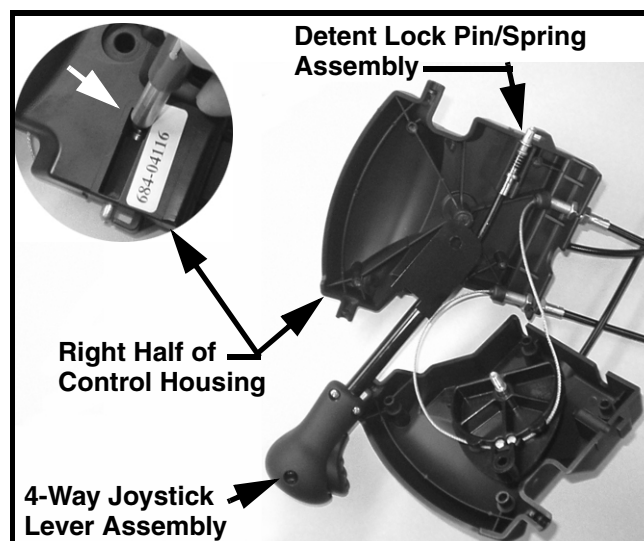

FIGURE 8
NOTE: The 4-Way Chute Control joystick lever will remain attached to the right half because the detent lock pin/spring assembly is snapped into the right half of the housing. See Figure 8.
21. With the halves separated, use a flat blade screwdriver through the opening on the outside of the right half to push out the cable end ferrule of the detent lock pin/spring assembly from the right half of the control housing, see Figure 8 inset.